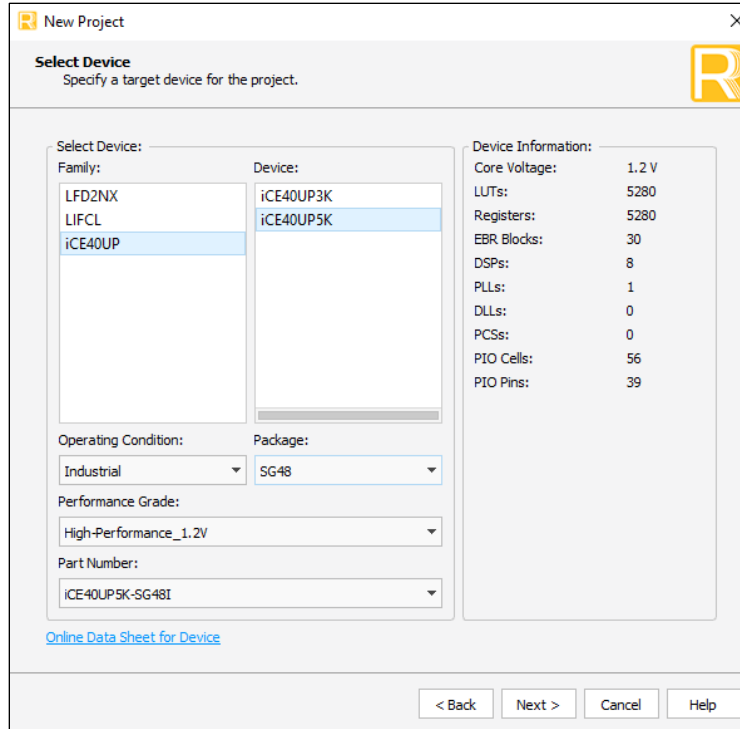

Figure 4.2. Device Family Selection
4. In **Select Device** as shown in Figure 4.2, select **iCE40UP** in **Family** and the targeted device in **Device**. Click **Next**.